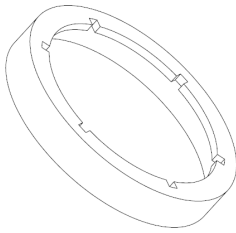

Fig. 12: Representative illustration of the tube adapter counterpiece
In the variant “thick tube up”, you will need to assemble the tube adapter (see chapter 6.2.1). The exception to this are units preassembled by LOGICDATA. The tube adapter should connect the drive via a special counterpiece (see Fig. 12: Representative illustration of the tube adapter counterpiece) with the middle tube of the height-adjustable column.
1. Mount the tube adapter counterpiece into the center tube (see Fig. 12: Representative illustration of the tube adapter counterpiece).